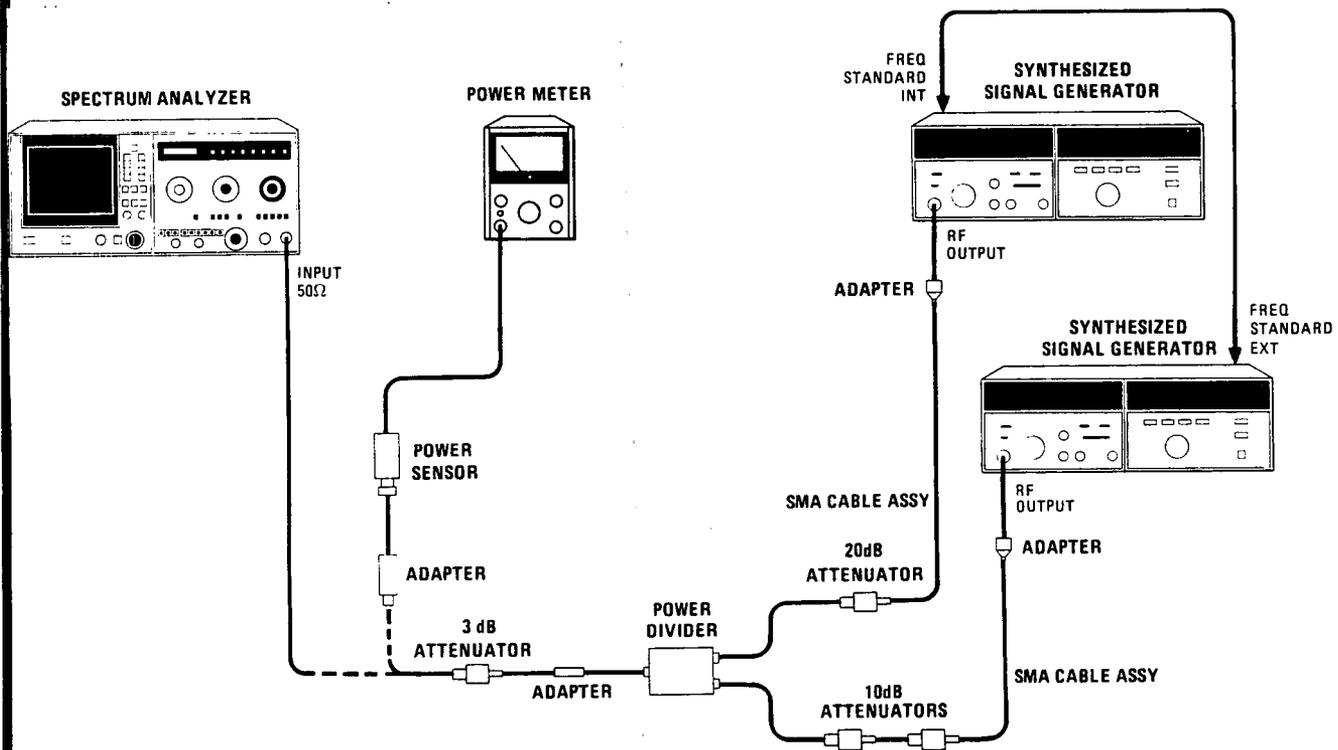

Figure 4-26. Intermodulation Distortion Test Setup
7. Connect equipment as shown in Figure 4-26 with output of the 3 dB attenuator connected to spectrum analyzer INPUT 50 ohm.
15. Connect the output of the 3 dB attenuator to the power sensor as shown in Figure 4-26.
18. Connect the output of the 3 dB attenuator to the analyzer input as shown in Figure 4-26.